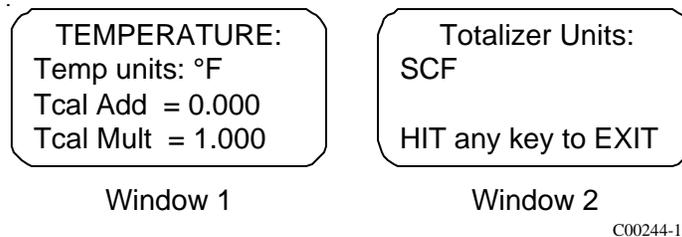

Figure 17 - Temperature, Totalizer Verification Display
2. Press 5 to view the current units for temperature. Press 3 to view the current units for the total flow. (If the totalizer is disabled the display will only show No Totalizer.) The information will be displayed to the screen as shown in Figure 17.